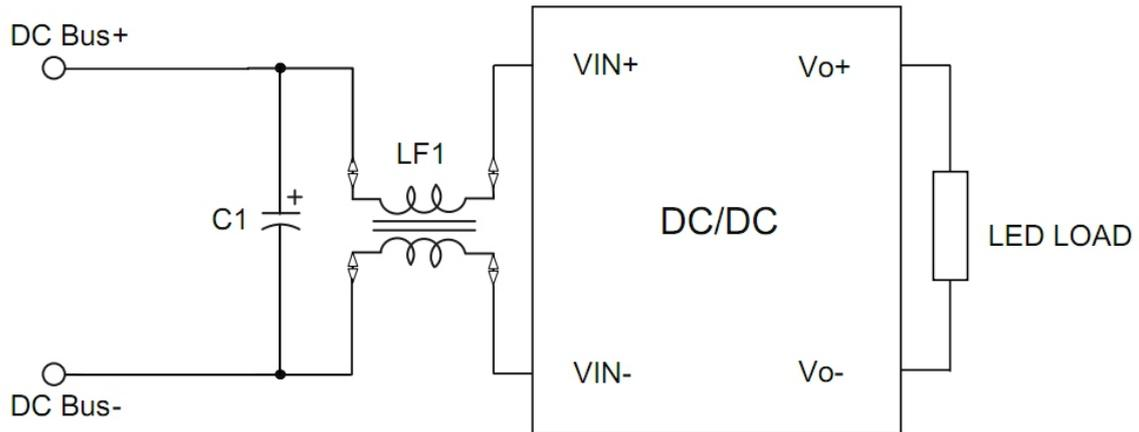

Figure 1
2. If LDH-25 is powered by DC Bus, additional EMC filter parts shall be added to meet BS EN/EN55015. The recommended circuit is shown in Figure1
| Figure 1: Parameter description |  |